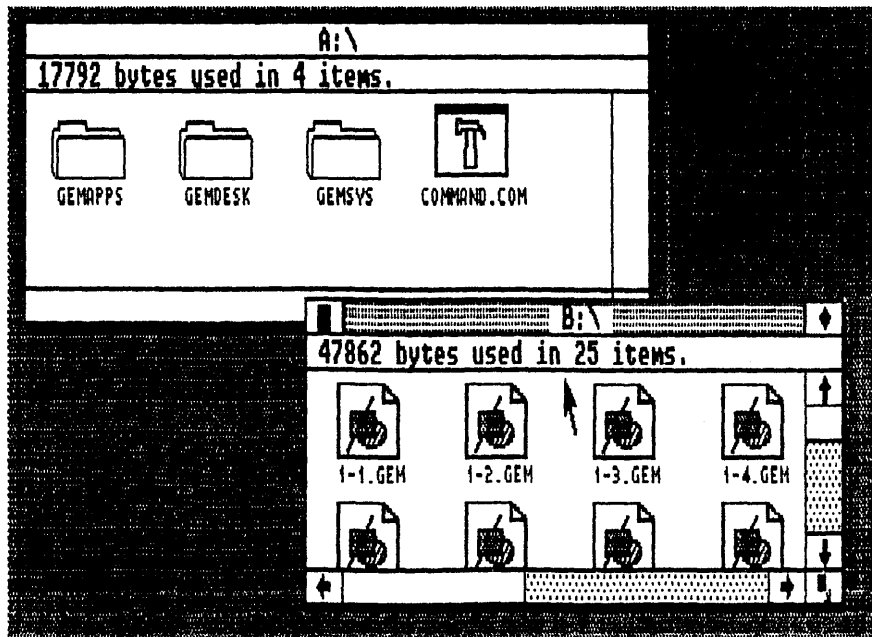

Fig. 1-5. Two open windows are on the desktop. The pointer is inside the active window.
- ☐ Activate a window by clicking *anywhere* within its border (Fig. 1-5).